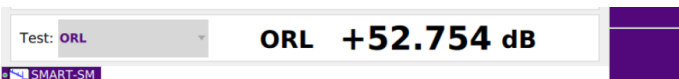
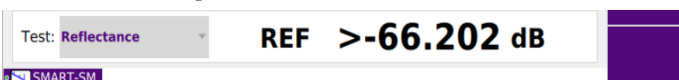

Figure 11: Trace View, ORL result
Figure 12: Trace View, Reflectance Result
5. Figure 11 shows Loss measurement, Figure 12 shows ORL measurement while Figure 13 shows Reflectance measurement.